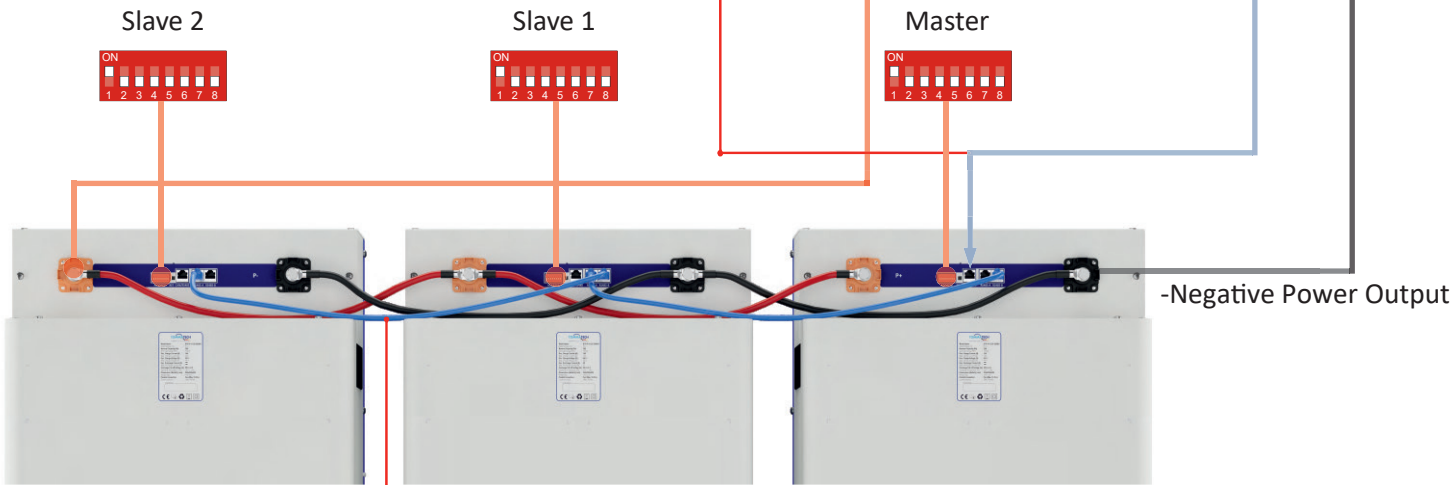

Figure 5.3
**NOTE:** Before connecting the cables, the addressing settings should be configured according to the number of batteries to be used, as specified on page 10 (Figure 5.3).